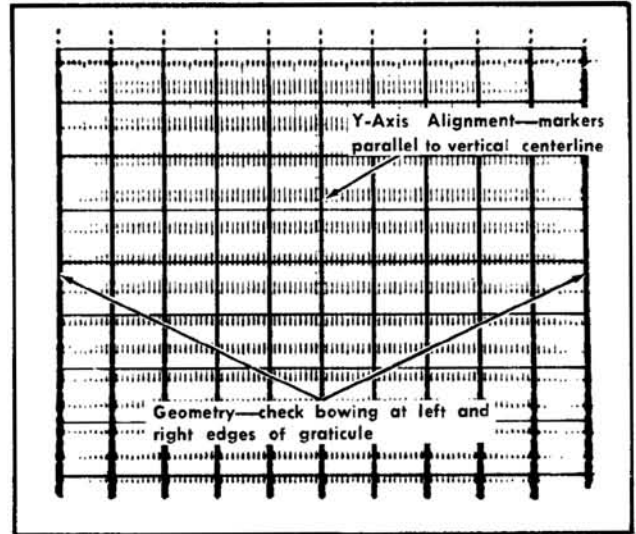

Fig. 5-1. Typical CRT display showing good geometry and Y-axis alignment.
- g. CHECK—CRT display for less than 0.1 division bowing of the markers at the left and right edges of the graticule (see Fig. 5-1).